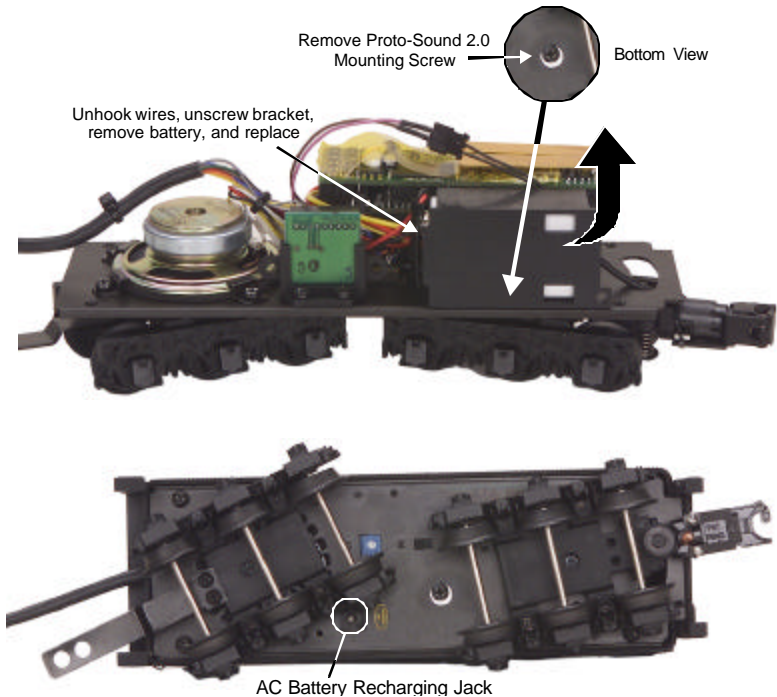

Figure 9. Replacing and Recharging the Battery
- Use M.T.H.'s recharger (sold separately) that plugs into a wall outlet and a special port under the engine (see figure 9 on pg. 15) to recharge the battery overnight.
- Or you can remove the battery (see figure 9 on pg. 15) and charge it in any standard slow charge battery recharger, following the recharger's directions.
Replace: If the sounds are not improved at the end of the 15-minute test charge, it is time to replace the battery (see figure 9 on pg. 15).